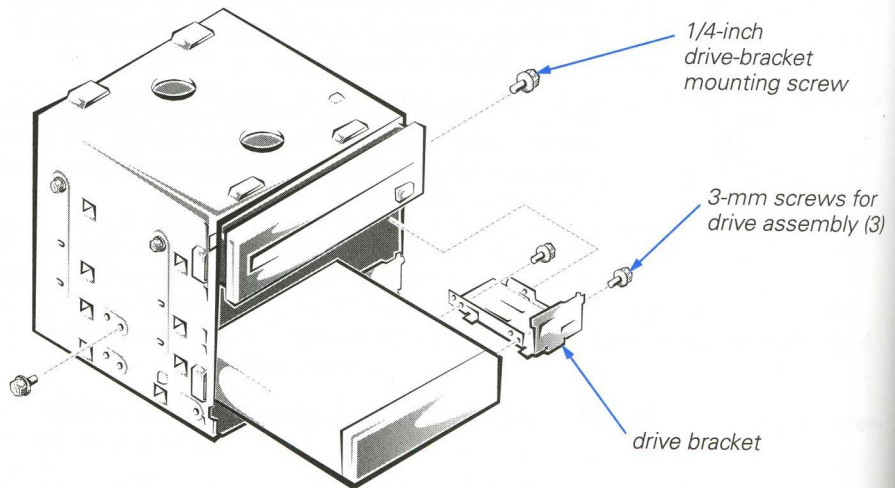

**Figure 3-9. Installing a Drive in the Upper 3.5-Inch Drive Bay**
4. Remove the 6/32 x 1/4-inch screw securing the drive bracket to the drive cage and remove the bracket. Attach the drive to the bracket with two screws on the right side as shown in Figure 3-9.
6. Slide the drive assembly into the drive bay, and secure it to the drive cage with one screw on each side as shown in Figure 3-9.